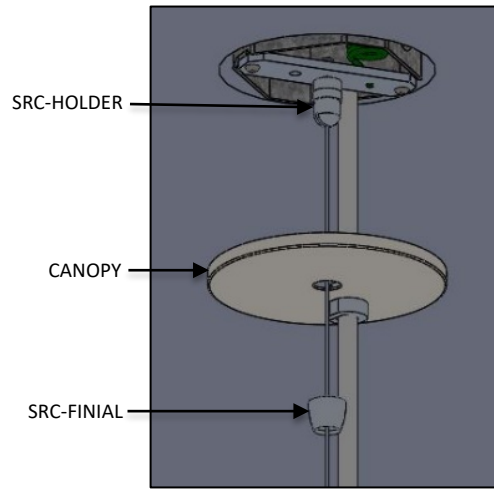

FIG. 20 – FINIAL INSTALLATION
19. Raise CANOPY and secure to ceiling by threading the SRC-FINIAL to SRC-HOLDER.as shown below in FIG.20.